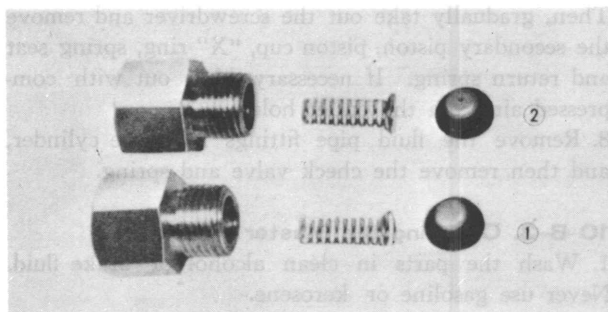

Fig. 10-8 Check valve
1. Fit the check valve on the spring and place them in the outlet hole. Install the pipe fitting to the outlet hole. (Refer Fig. 10-8)